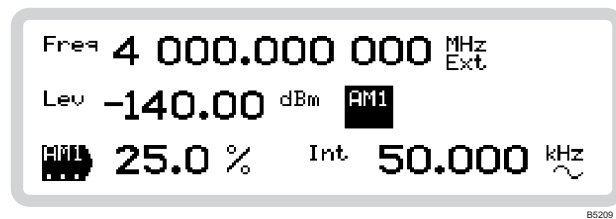

Fig. 3-69 AM1 main screen
- 2 Press **SIG GEN** to show the main screen, and touch the **AM1** soft box to select the function (Fig. 3-69).